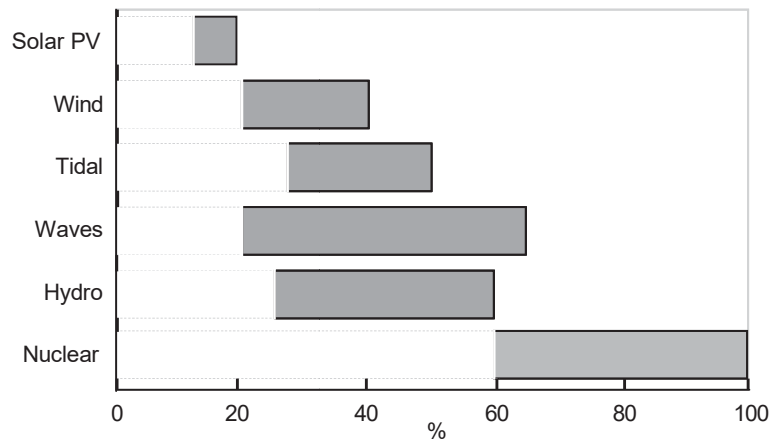

Fig. 1.11.2 Capacity factor by power plant by technology
- The capacity factors of solar plants are particularly low as shown in Fig. 1.11.2.